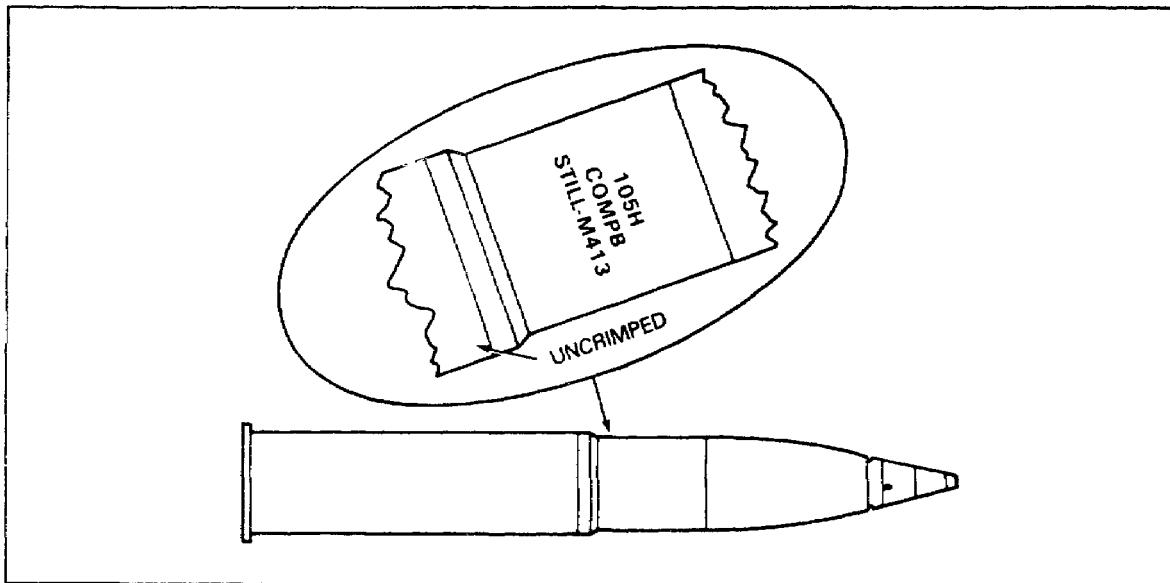

Figure 13. Semifixed Artillery Ammunition.
**Semifixed Ammunition.** Used in howitzers, this type of ammunition is issued with the cartridge case and propellant separate from the projectile but in the same container. The cartridge case fits loosely over the base of the projectile before firing so the firing unit can adjust the amount of propellant to obtain the desired range. See Figure 13.